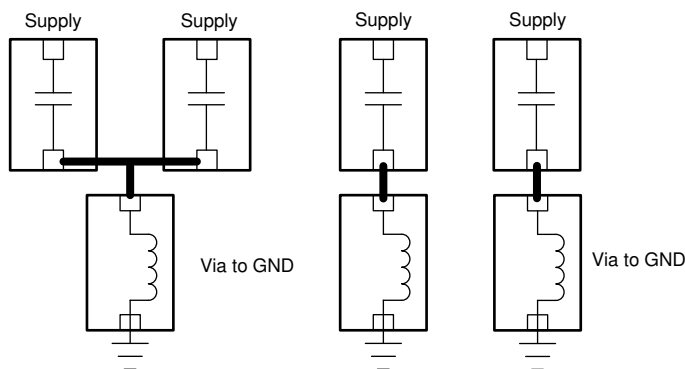

Figure 4-5. Decoupling Capacitors and VIA to Ground
- Each decoupling capacitor should have a separate via to ground to minimize noise coupling (see Figure 4-5).
The right side of Figure 4-5 that uses separate vias to ground has less noise coupling.